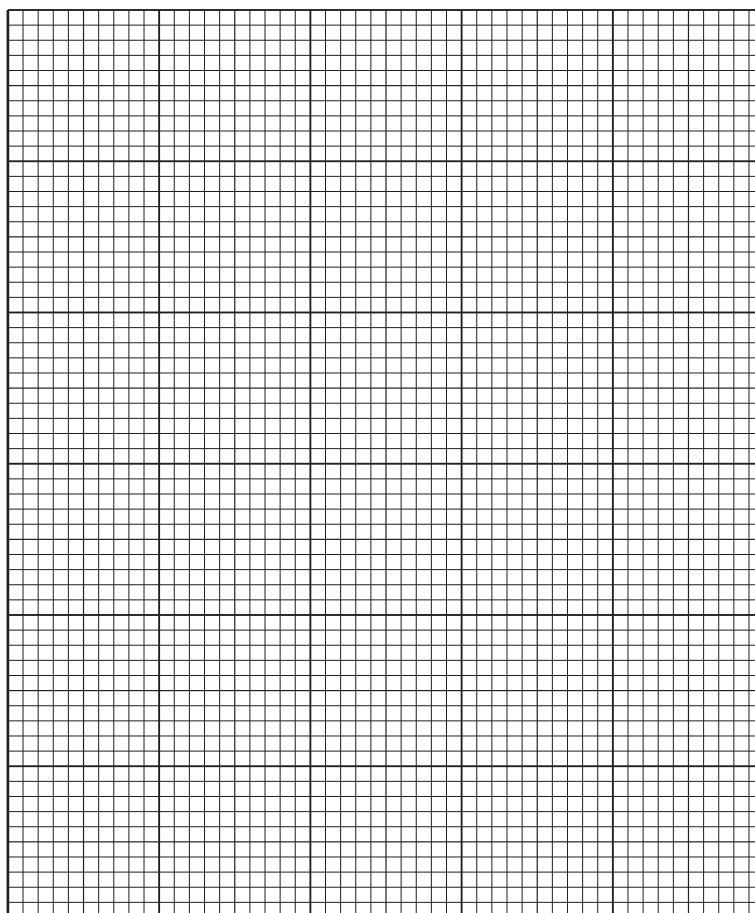

Fig. 1.4
- (i) Plot a bar chart of the data shown in Table 1.2 on the grid in Fig. 1.4.